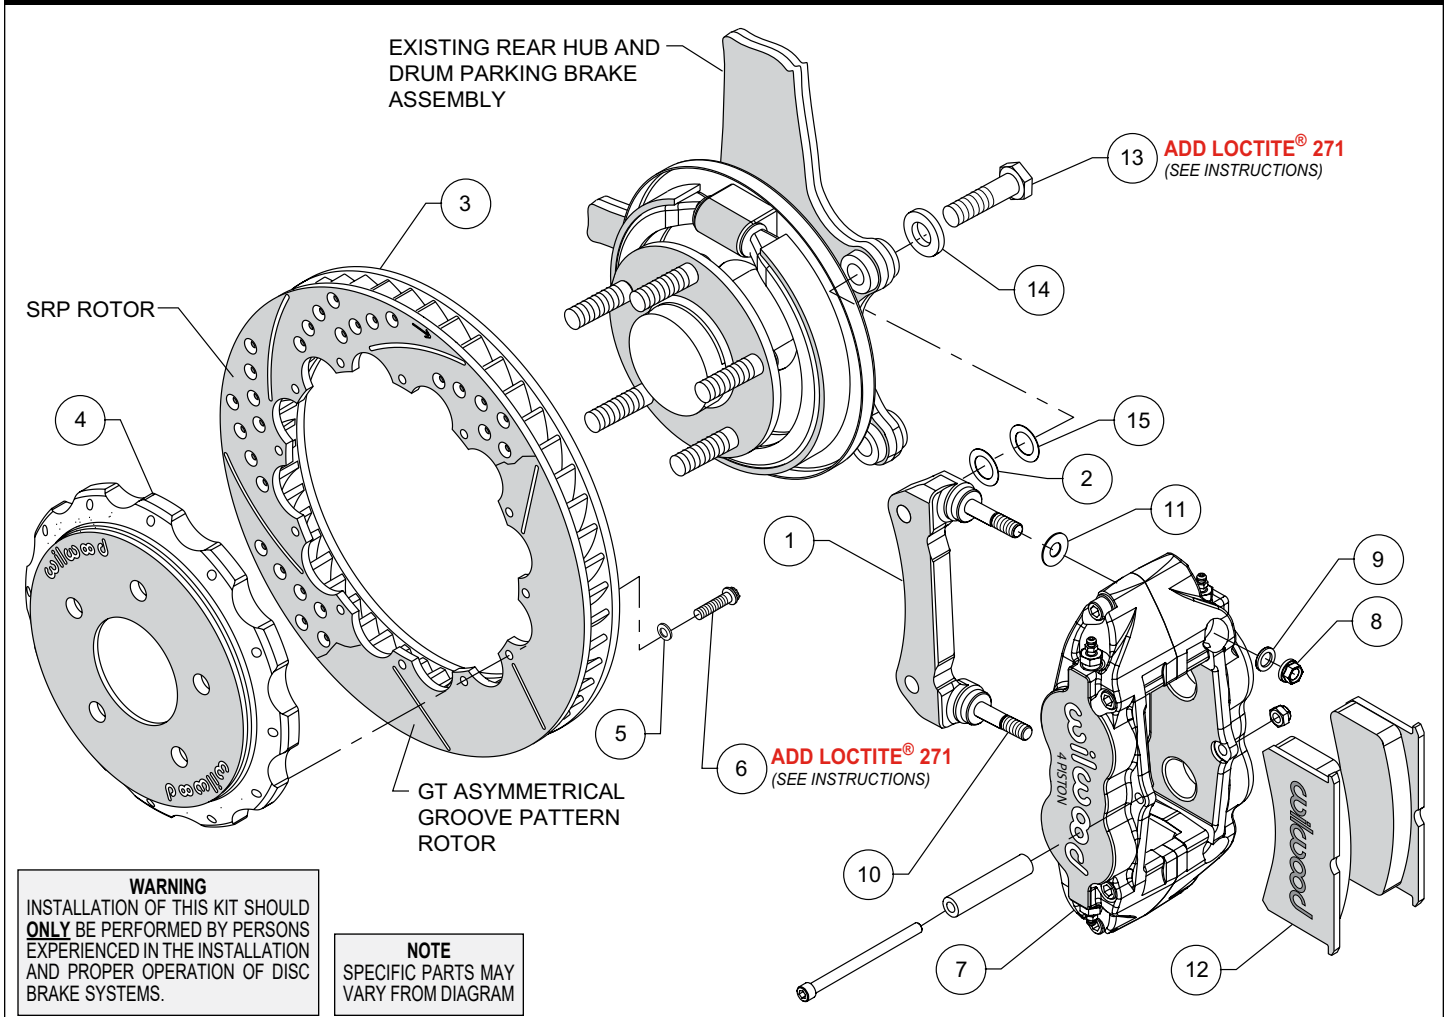
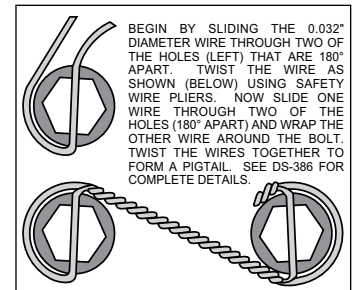
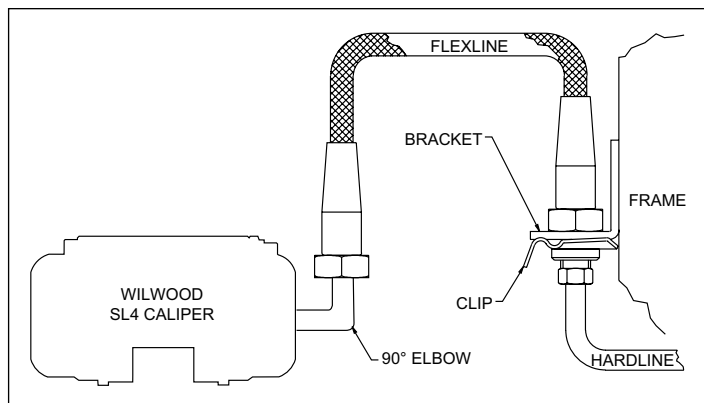

Figure 1. Typical Installation Configuration
Figure 3. Safety Wire Diagram
Figure 4. Brake Line Diagram
NOTE: Numbers in parenthesis refer to the parts list and Figure 1 on the preceding pages.
- The caliper mount bracket (1) should initially be installed with clean, dry threads on the mounting bolts. Orient the bracket, as shown in Figure 1 and install using bolts (13) and washers (14). Initially place one .029" thick shim (15) on each bolt between the bracket and upright, Figure 1. Temporarily tighten the mounting bolts. **NOTE:** The bracket must fit squarely against the mount bosses on the upright. Inspect for interference from casting irregularities, machining ridges, burrs, etc. Later, after the caliper alignment has been checked, the mount bolts will be secured using red *Loctite*® 271.
- Orient the rotor (3) and the hat (4) as shown in Figure 1 and Photo 1. Attach rotor to hat using bolts (6) and washers (5). Apply red *Loctite*® 271 to the bolt threads and torque to 155 in-lb using a criss-cross pattern. For an added measure of security, the bolts may be safety wired using standard 0.032 inch diameter stainless steel safety wire as shown in Figure 3. Refer to Wilwood's data sheet DS-386 (available at www.wilwood.com/Pdf/DataSheets/ds386.pdf) for complete safety wire installation instructions.
- Initially place one .035" thick shim (11), on each stud (10) as shown in Figure 1 and Photo 2. Mount the caliper (7) onto the bracket (1) using lock nuts (8) and washers (9), Figure 1. Temporarily tighten the lock nuts and view the rotor through the top opening of the caliper. The rotor should be centered in the caliper, Photo 3. If not, adjust by adding or subtracting shims (2 and/or 15) between the bracket and the upright. Always use the same amount of shims on each of the two mounting bolts. Once the caliper alignment is correct, remove the bracket mounting bolts (13) one at a time, apply red *Loctite*® 271 to the threads, and torque to 77 ft-lb.
- Remove the caliper center bridge pad retainer bolt, nut, and tube from the caliper. Insert the brake pads (12) into the caliper, with the friction material facing the rotor, as shown in Photo 4. Check that the top of the brake pad is flush with the outside diameter of the rotor, Photo 5. If not, adjust by adding or subtracting shims (11) between the caliper and the bracket. After the caliper pad height is set, reinstall the center bridge pad retainer tube, bolt, and lock nut. The lock nut should be snug without play in the bolt or tube. Be cautious not to over tighten. Torque the caliper lock nuts (8) to 30 ft-lb.
- **NOTE:** The caliper in this brake kit utilizes a 1/8-27 NPT pipe thread inlet (use PTFE tape on pipe threads of adapter fitting for proper sealing to caliper). OEM rubber brake hoses generally cannot be adapted to Wilwood calipers. Wilwood offers a brake flex line hose kit to fit this application, order P/N 220-8177 for C5, or 220-9101 for C6 (NOT included in kit), see Figure 4. Hose kit includes hoses, fittings, etc., all in one package for this application. **Carefully route hoses to prevent contact with moving suspension, brake or wheel components.** **NOTE:** Wilwood hose kits are designed for use in many different vehicle applications and it is the installer's responsibility to properly route and ensure adequate clearance and retention for brake hose components.